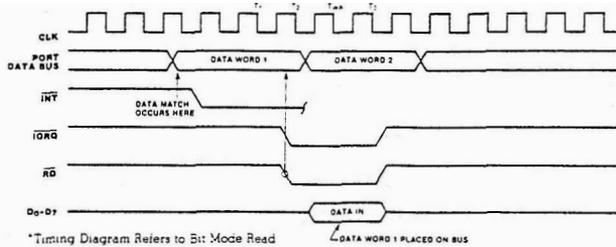

Figure 17. Mode 3 Bit Mode Timing
**Bit Mode (Mode 3).** The bit mode does not utilize the handshake signals, and a normal port write or port read can be executed at any time. When writing, the data is latched into the output registers with the same timing as the output mode (Figure 17).